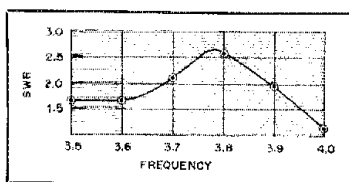

Fig. 2 — VSWR curve for the 80-meter half-sloper antenna.
An interesting thing happened to the 80-meter antenna: The fanning or spreading didn't seem to affect it much. However, after it was trimmed in an empirical manner, I found it was very broadband and had an unusual SWR curve (Fig. 2), completely different from the usual hyperbola of the isolated 80-meter anten-
□ In Fig. 2 of "Concept and Construction of a CW Filter and Enhancer," April 1982 *QST*, the 100-k Ω pot connected to U3D pin 13 should be labeled R4. The 100-k Ω resistor from U3D pin 14 should be labeled R5; the other end of R5 connects to U4 pin 5.